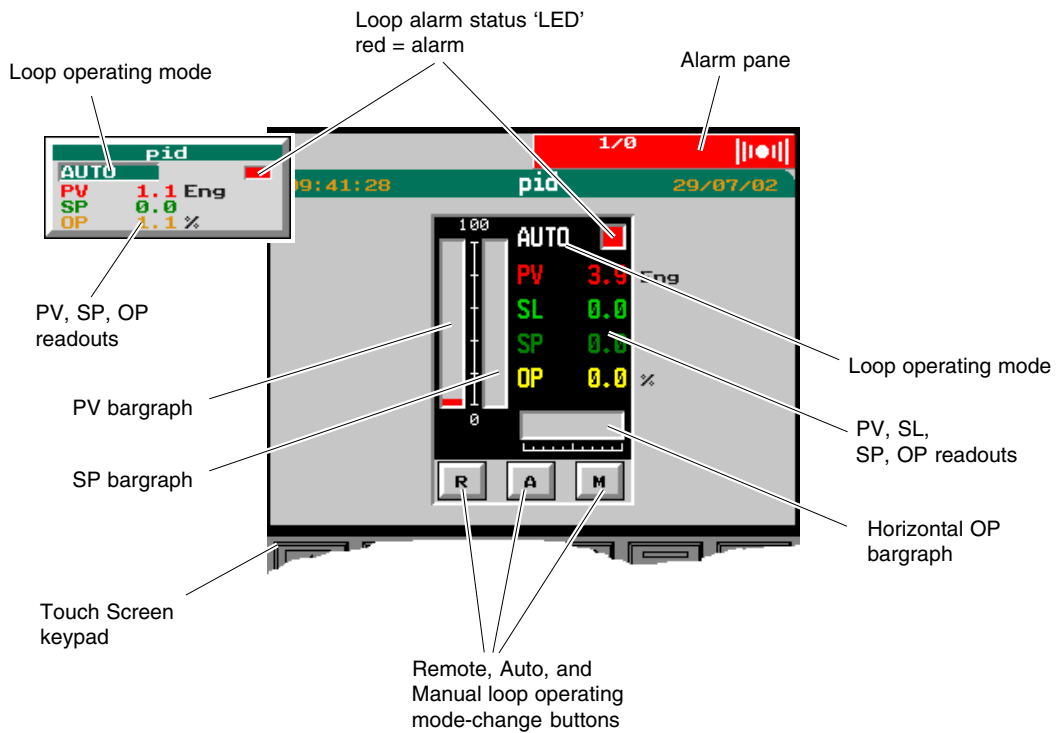

Figure 2-3b PID faceplate (top left) and larger function block faceplate
- 3 Load and run the selected application, by pressing the **LD+RUN** key. The 'pidloop' group display appears, with its single 'pid' faceplate representing the PID control block (Figure 2-3b, top left). The 'LED' shows the loop alarm status, and the current PV, SP, and OP readouts.
- 1 Press the 'pid' faceplate to see the **PID function block faceplate** showing the loop parameters (Figure 2-3b). Note the PV, SL, SP, and OP numeric displays, PV and SP vertical bargraphs, horizontal output bargraph, alarm status 'LED', operating mode legend, and the three operating mode-change buttons, **R** (remote), **A** (automatic), and **M** (manual).
Figure 2-3b showed the alarm pane at the top right corner of the screen. It is red, meaning that there is at least one active alarm present, in this case a *low absolute alarm* (set in the PID blocks *Alarms.LowAbs* field - Priority 1) because PV is below 20, the low absolute alarm threshold (set in the PID block's *LAA* field). The legend '**1/0**' means that there is currently **one** active alarm and **zero** unacknowledged alarms.